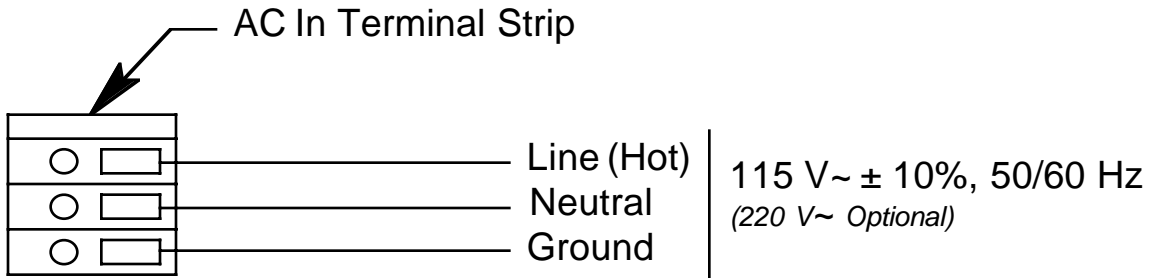

Figure 6. AC Power Wiring
6. Connect the AC wires to the AC power terminal strip as shown in Figure 6.